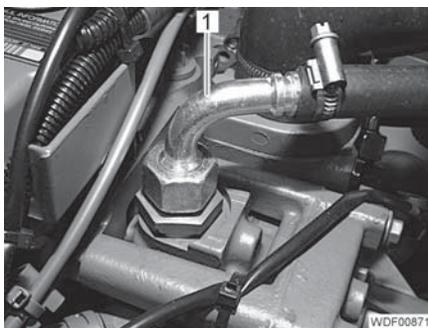

Fig. 12 Heater connection
- Unscrew and close off the heating line (Fig. 12,1).